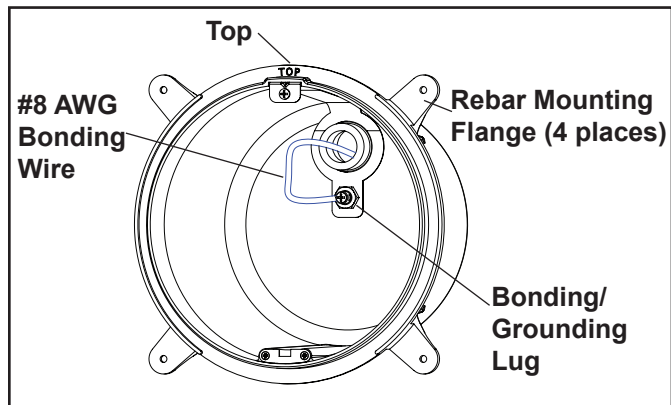

Figure 3. Plastic Niche Bonding Wire Installation
- e. If nonmetallic conduit is used, a #8 AWG (#6 AWG for Canadian installations) bonding wire is required to run through conduit from the junction box to the bonding/grounding lug inside of niche. Seal the wire/lug connection with a listed sealant. See Figure 3.